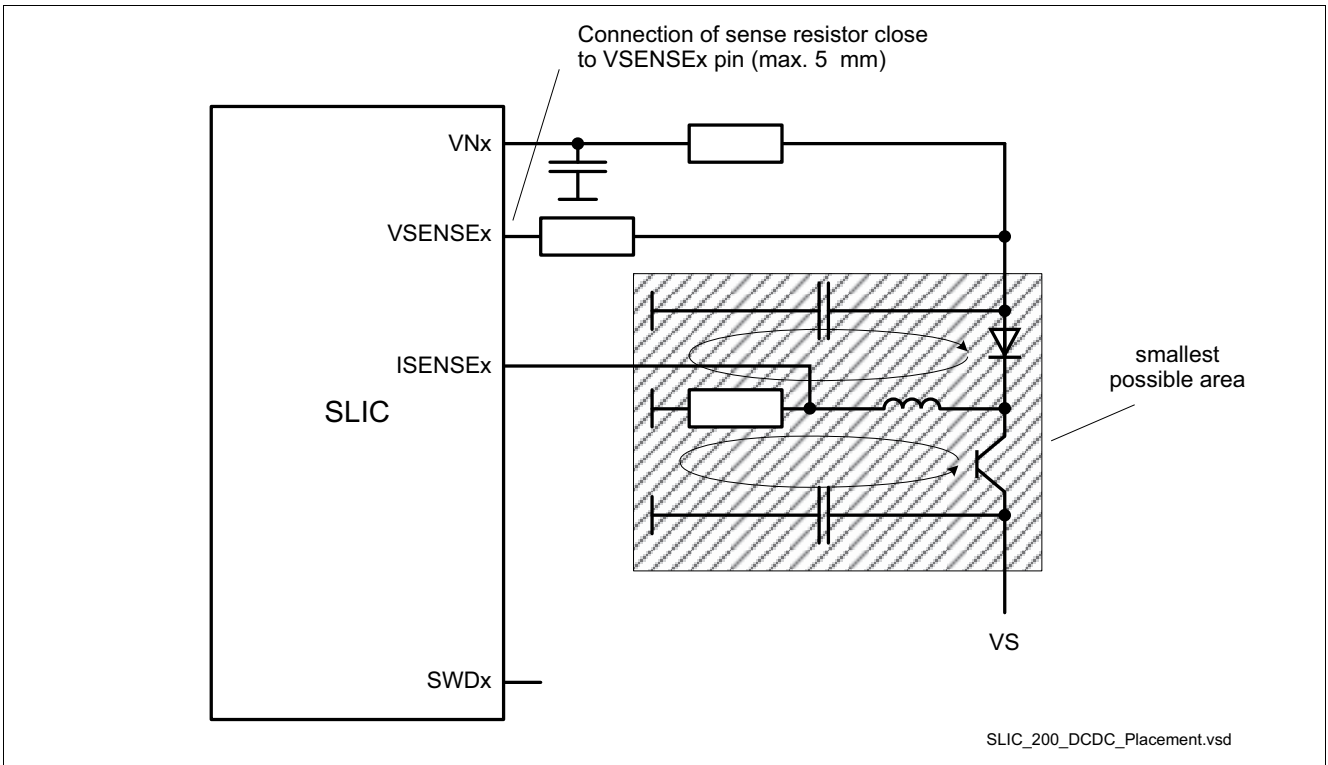

Figure 11 DC/DC Converter Component Placement
- The centralized capacitor for the SLIC supply $C2$ must be placed at the power connector, VS (see Figure 11).
- The blocking capacitor should be at least 22 μ F and must be placed close to the input pins of the DC/DC converter circuitry (see Figure 11).
- The components of the DC/DC converters must be placed on the smallest possible area, the traces must have a minimum width and coupling to the analog part must be minimized to avoid noise (**Figure 11**).